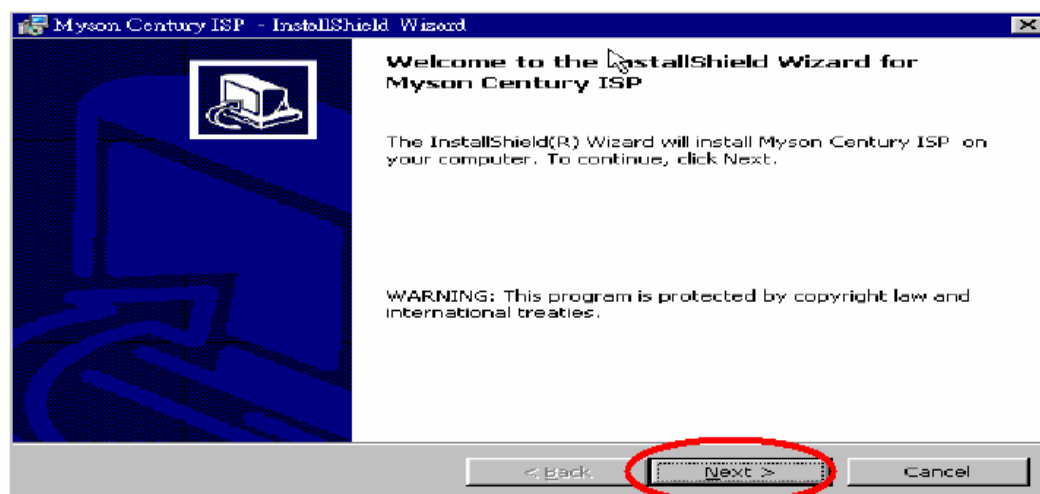

Fig 2.3
2.3 Press “ Next ” button to continue., see Fig 2.3